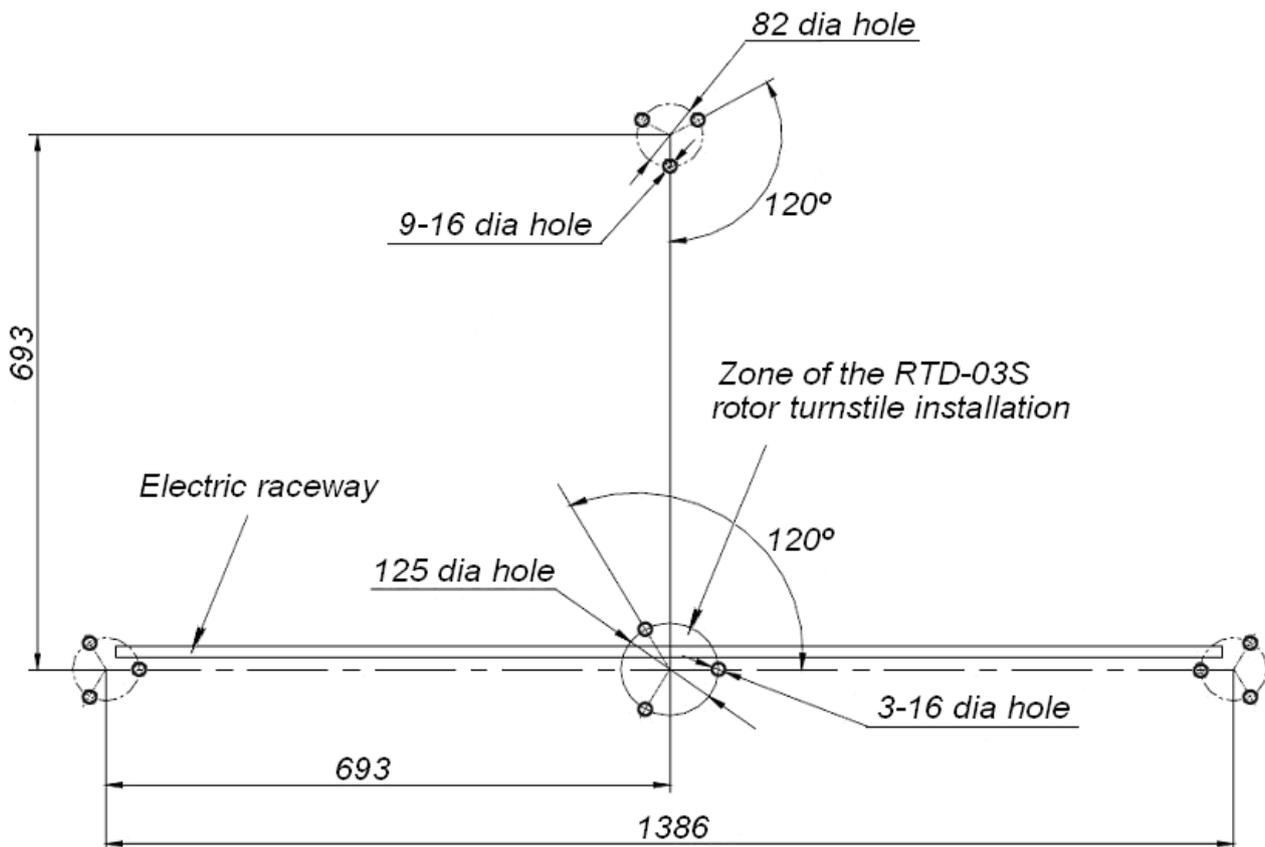

Figure 3 Marking for mounting of the Railing set posts
- to mark the mounting holes according to the enclosed installation instructions (see Fig.3);
3. Mark out the holes for the anchor bolts for the guide barriers post installation as shown in Fig. 3.